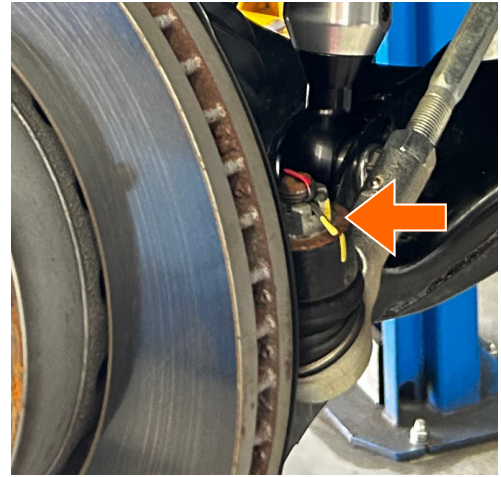
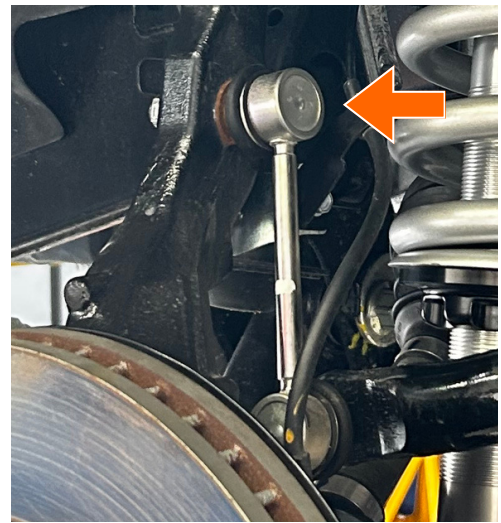

Fig 10: Tie rod end.
Fig 11: Sway bar end link.
6. Reinstall the tie rod end (Fig. 10) and sway bar end link (Fig. 11). Torque all hardware to OEM specification. Secure the tie rod end link's castle nut with a new cotter pin.